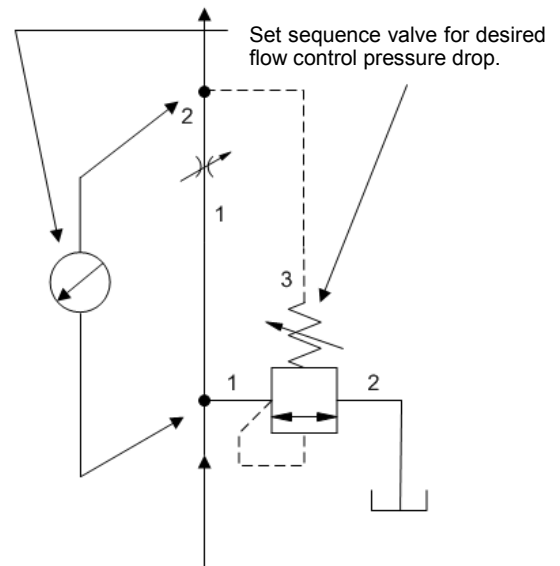

Figure 2.
- A sequence valve can also function as an adjustable bypass pressure compensator. (See Figure 2 on page 2.)